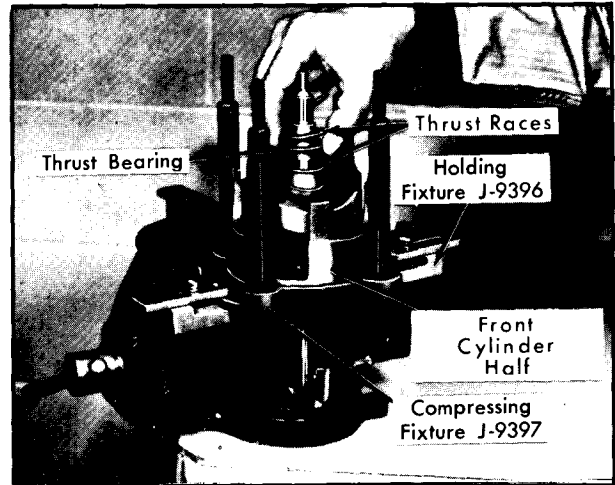

Figure 75—Installing Rear Thrust Races and Bearings
5. Now install a ZERO thrust race on rear end of compressor shaft (figure 75), so that it rests on hub of axial plate. Then install thrust bearing and a second ZERO thrust race. Lubricate races and bearing with petrolatum.